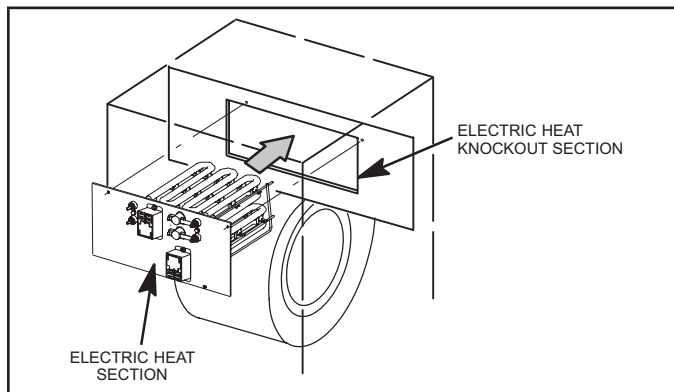

FIGURE 3. Electric Heat Section Installation
- 6 - Slide the electric heat section into the air handler as illustrated in figure 3. Be careful that the heating elements do not rub against the sheet metal opening when they slide into the air handler. The hole(s) on each side of the heater line up with holes in the air handler control box. Secure the electric heater into place with the screws that are provided in the bag assembly.